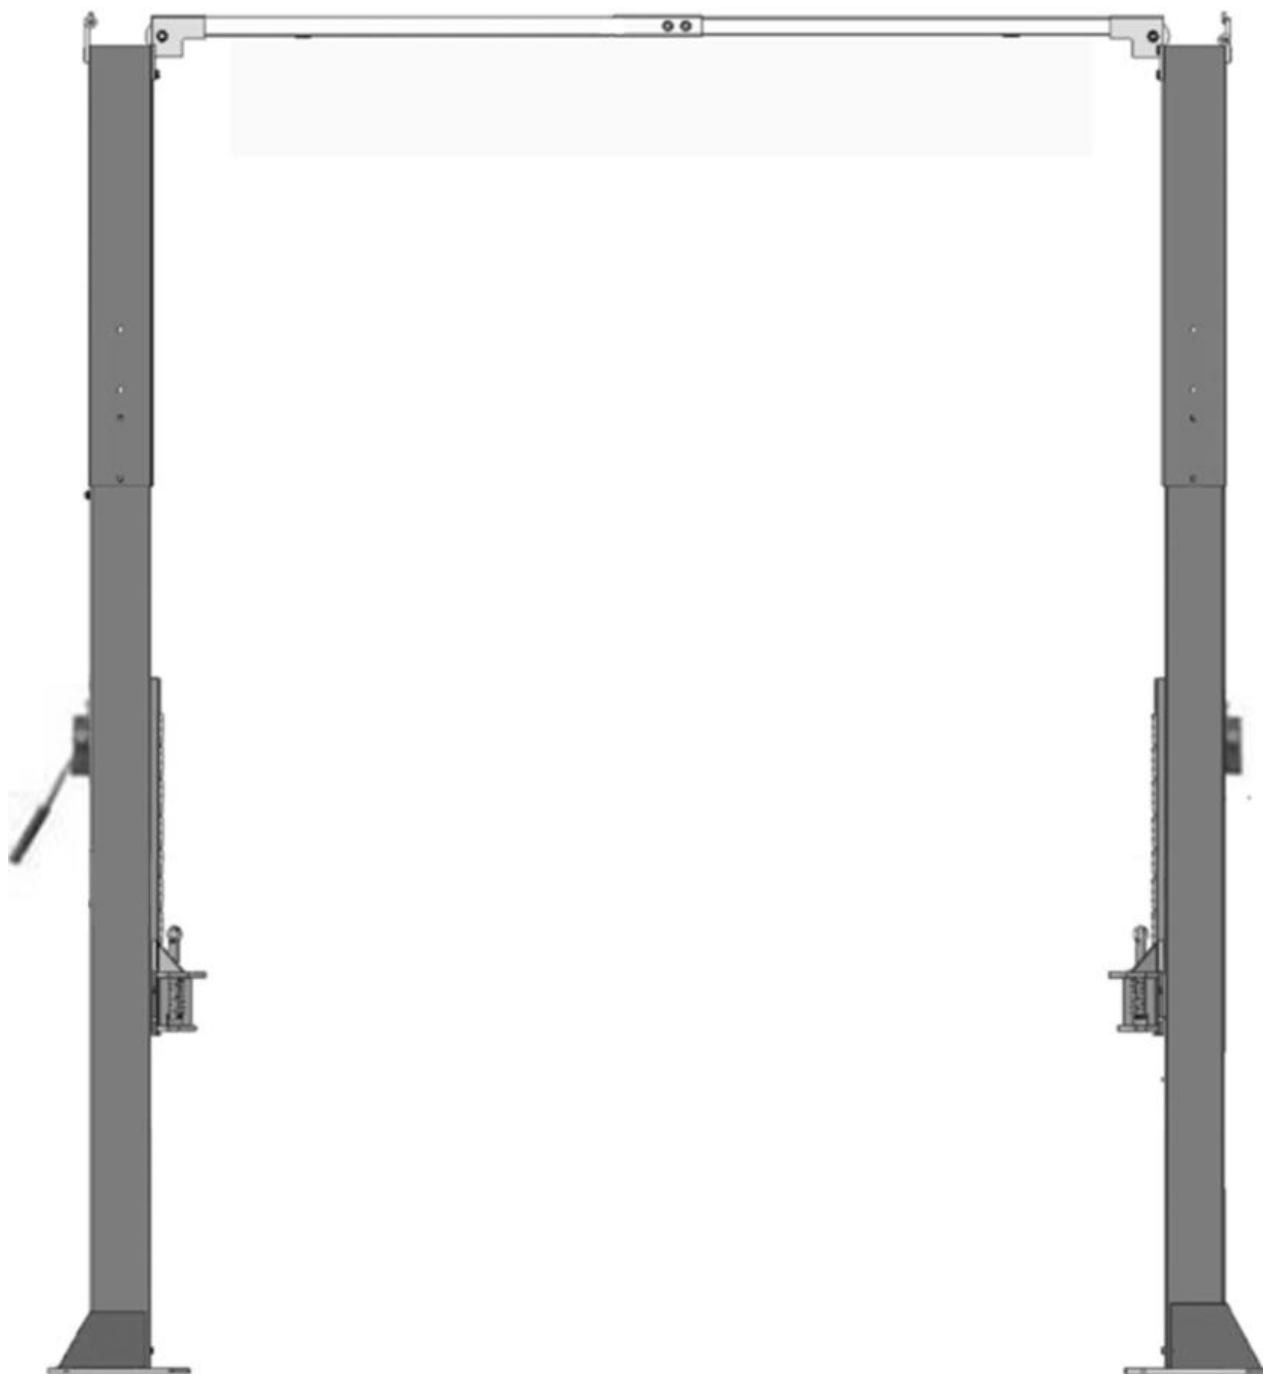

Fig.26
I. Lift the carriages up and make them be locked at the same level (See Fig. 26).